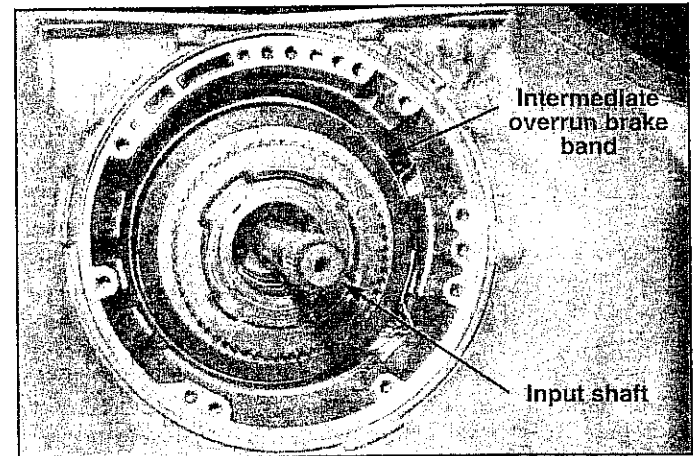

FIGURE 9
STEP 15. Remove the intermediate overrun brake band. (See Fig. 9) Use a screwdriver to unhook the anchor from the case and pull the band out of the case. Set it aside.
STEP 16. Grasp the input shaft and remove the entire clutch pack assembly. (See Fig. 9) There is a three-tab metal thrust washer between the clutch pack and the geartrain. Do not lose it. Set the clutch pack assembly aside.